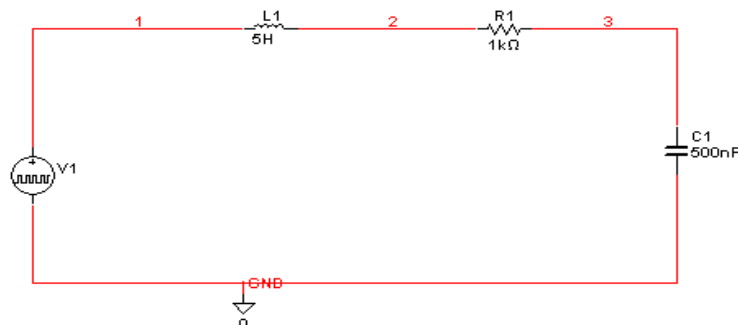

Figure A4
- (a) Draw the circuit as shown in Figure A4.